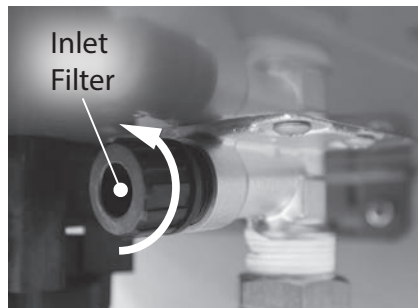

Figure 97 - Removing the inlet filter
- 8 Locate and remove the inlet filter as shown in Figure 97 to drain any residual water left in the system. Place a bucket or pan underneath inlet filter to collect water during removal.